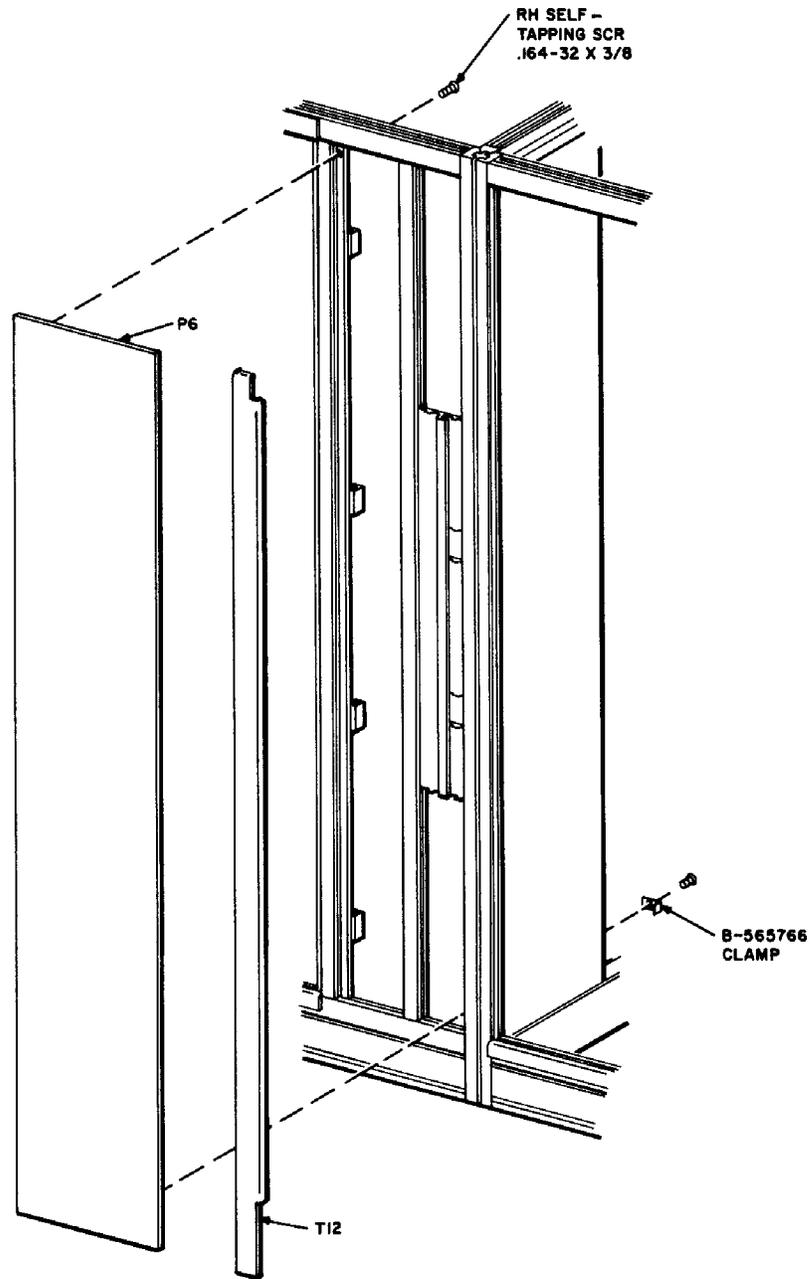

Fig. 26—F-1 and F-3 Walls Assembled Back-To-Back
- (m) Install T12 trim strip between F-1 and F-3 walls (Fig. 26).
- (q) Install P6 panel (Fig. 26) on each of F-1 walls using four B-565766 clamps and twelve .164-18 by 5/16 unpainted Phillips round head self-tapping screws.